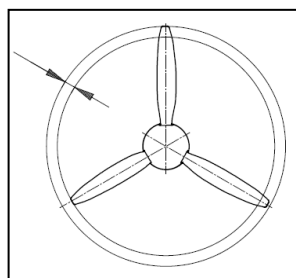

Fig. C-23 Max. difference in length of blades
- 2) Find the longest blade and calculate difference in length of other two blades (Fig. C-23). The difference must not exceed 4mm. Record values to the form (fill "0" to the column belonging to the longest blade).